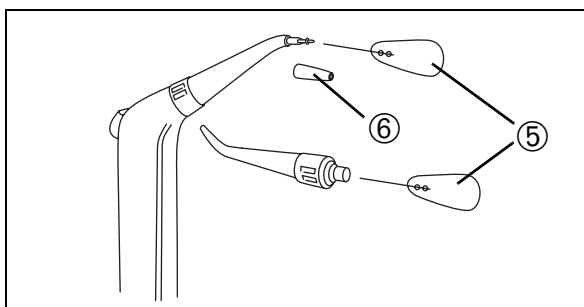

Fig. 25
If required, the water conduit in the nozzle can be cleaned using the cleaning wire provided ⑤ (Fig. 25). It may help to unscrew the tip of the nozzle ⑥.